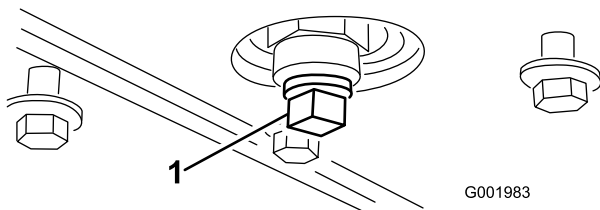

Figure 47
- Remove the drain plug (Figure 47).